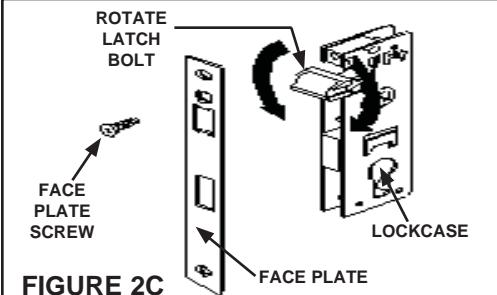

FIGURE 2C
- C. Rotate the latch bolt to the correct position for a left hinge or right hinge door. **FIGURE 2C**